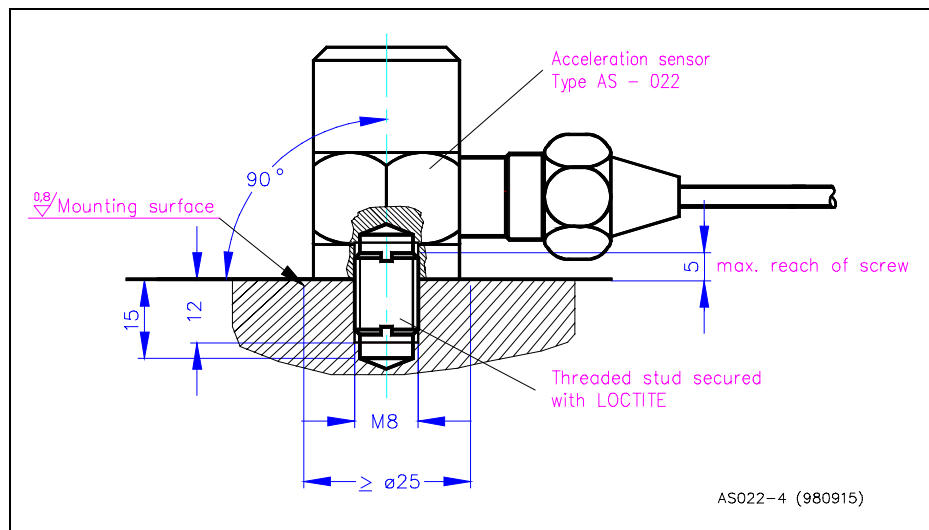

Fig. 3 Mounting
- ◆ Screw stud into the mounting surface in accordance with fig. 3 and secure same (e.g. with LOCTITE)